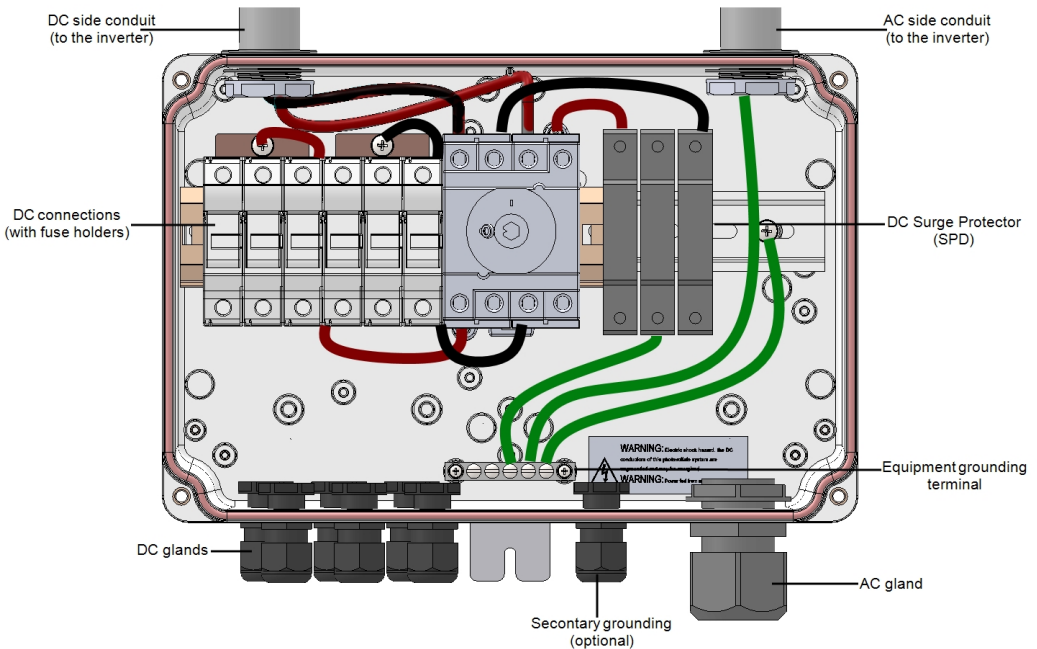

Figure 37: Inside the DC Safety Unit with fuses
6. Open the AC cable gland and insert the cable through the gland (see *Figure 37*).